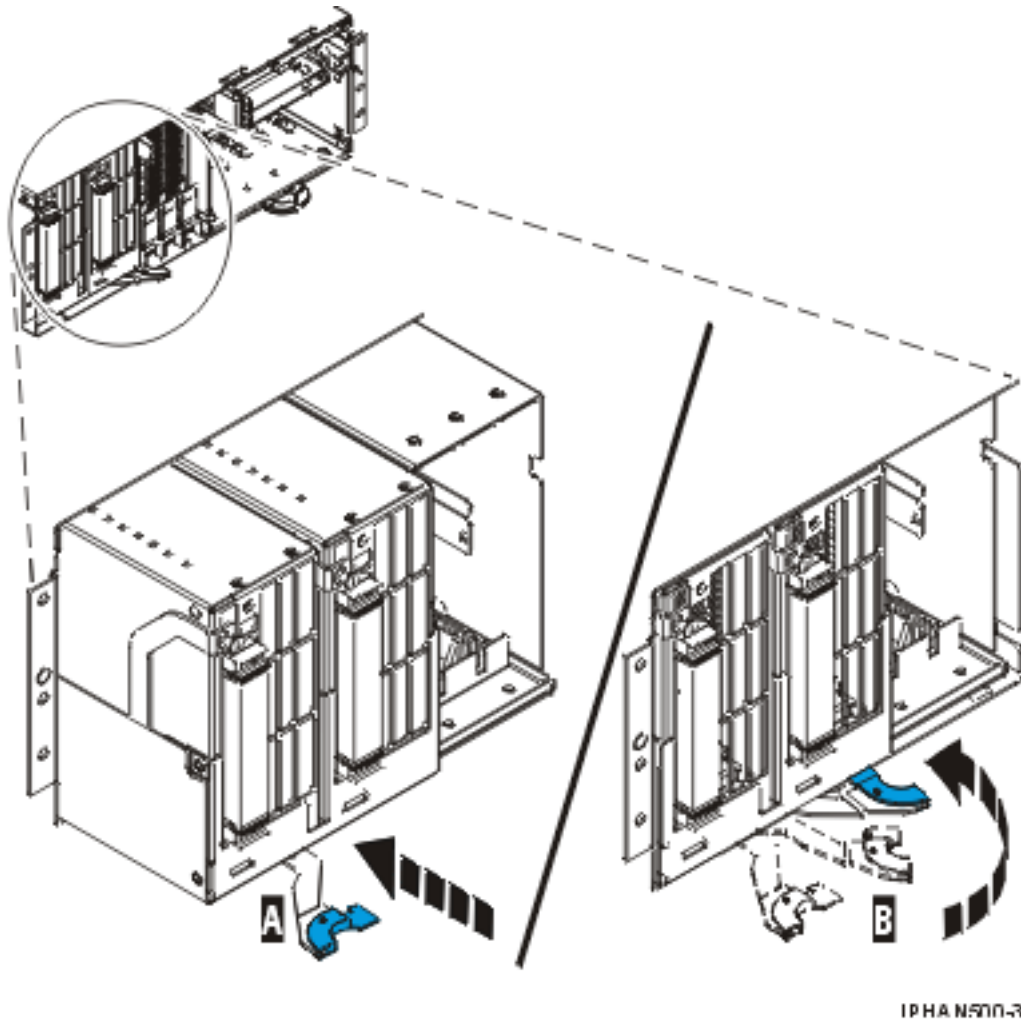

Figure 4. Sliding the 8234-EMA, 9117-MMA, or 9406-MMA system backplane assembly into the system unit
5. Slide the system backplane assembly into the system (A), as shown in Figure 4 on page 9.
6. Push the blue lever (B) to the right and in toward the system to lock the system backplane assembly.